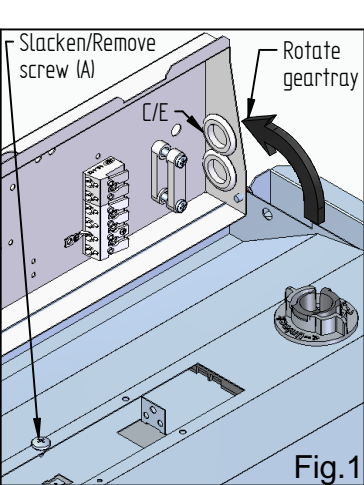

Fig.1
2) **Emergency** - (Fig1) Slacken screw (A) on the rear of body then push & rotate geartray to a vertical position.